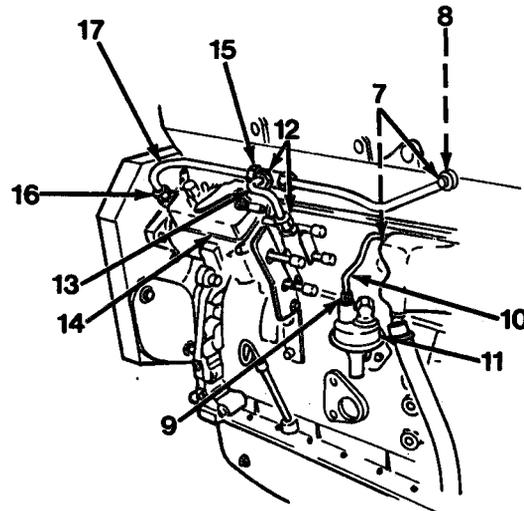

Figure 7-4
2. Using a 17 mm wrench, remove two banjo screws (7) and four copper seals (8, Figure 7-4) from filter head. Discard four copper seals (8).